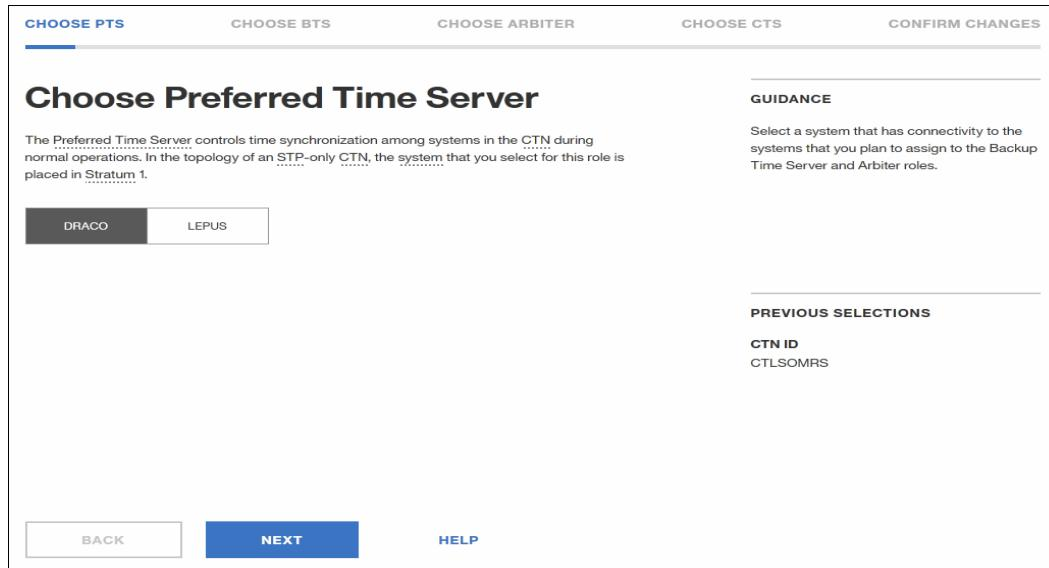

Figure 8-61 Choose Preferred Time Server
2. The **Choose Preferred Time Server** window opens. Select the CPC name for the PTS. In this example, we do not change the PTS, so DRACO remains selected (Figure 8-61).